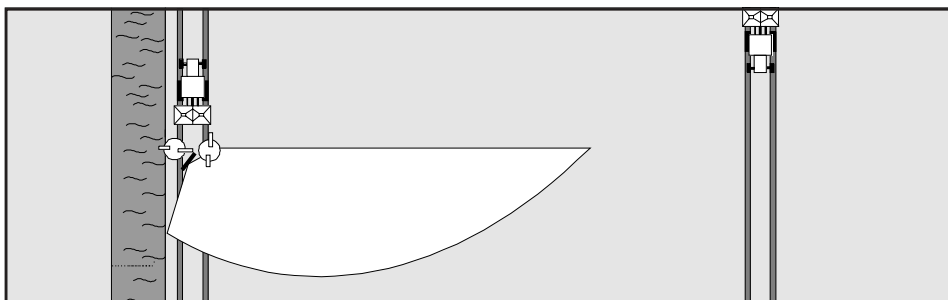
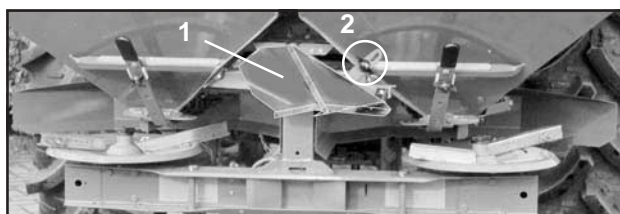

Fig. 7.25
Fig. 7.26
If the tramline is placed into the first working path of the seed drill (Fig. 7.25) (with a 3 m seed drill the distance of the first tramline to the field's side is 1.5 m), use the border spread deflector (Fig. 7.26/1) and proceed as follows:
- After having slackened the lock nut (Fig. 7.26/2) swivel downwards the border spread deflector (one-sided) (Fig. 7.26/1) from out of operation- (Fig. 7.26) to operation position (Fig. 7.27). Swivel downwards border spread deflector (two-sided) by remote control.